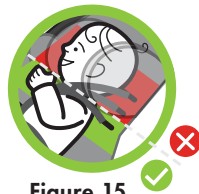

Figure 15
- The Shoulder Harness Straps **MUST** be through Shoulder Harness Slots at or just below and closest to child's shoulders, as shown in **Figure 15**.